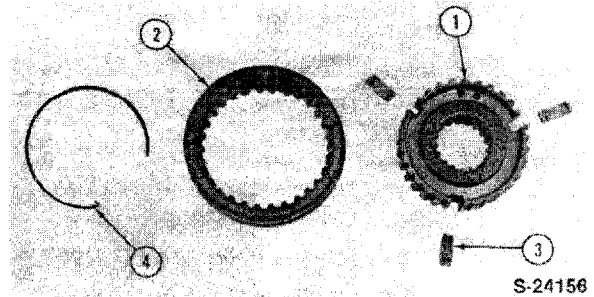

Figure 152
1. Assemble the synchronizer gear, keys, coupling and retainer rings, Figure 152.